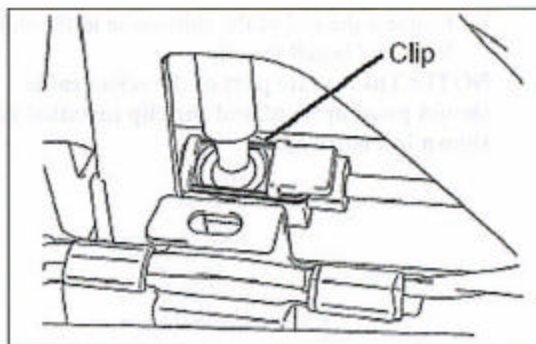

Figure 10
2. Attach the shift cable to the underside of the shift lever assembly and attach the clip removed in Step 10 of the Removal Procedure on Page 3 (Figure 10).